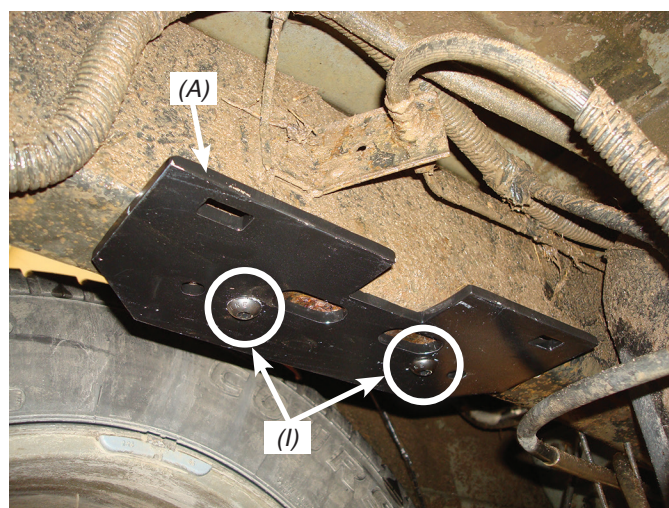

fig. 4
*The slot in the frame goes inboard towards the inside of the vehicle (fig. 4). Repeat for the opposite side.*